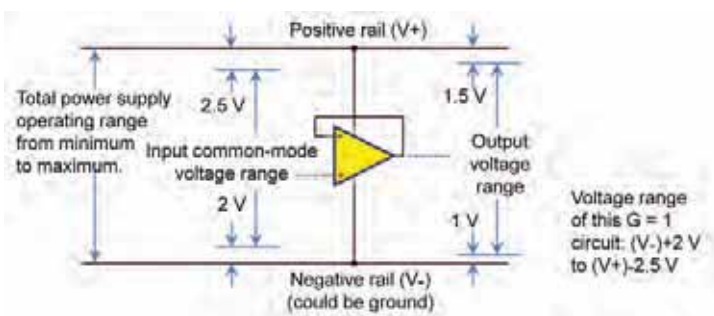

Figure 1: Input and output voltage ranges of a typical op amp used on dual supplies (\pm).
2. The input common-mode voltage range (C-M range) is generally specified relative to the positive and negative supply voltages, shown in Figure 1. In some equation-like form, the C-M range of this hypothetical op amp would be described as 2 V above the negative rail to 2.5 V below the positive rail. Something like this: $(V_-)+2$ V to $(V_+)-2.5$ V.
Figures 1, 2 and 3 show a $G = 1$ buffer configuration. A key point here: The output capability of the example in Figure 1 will be limited to 2 V from the negative rail and 2.5 V from the positive rail, which is due to the limited-input C-M range. You would need to configure this op amp in a higher gain to deliver its full output-voltage range.
The example in Figure 1 is typical of an op amp generally used on dual supplies. It would not be called a “single-supply” type, but it could operate as a single supply by staying within those ranges.